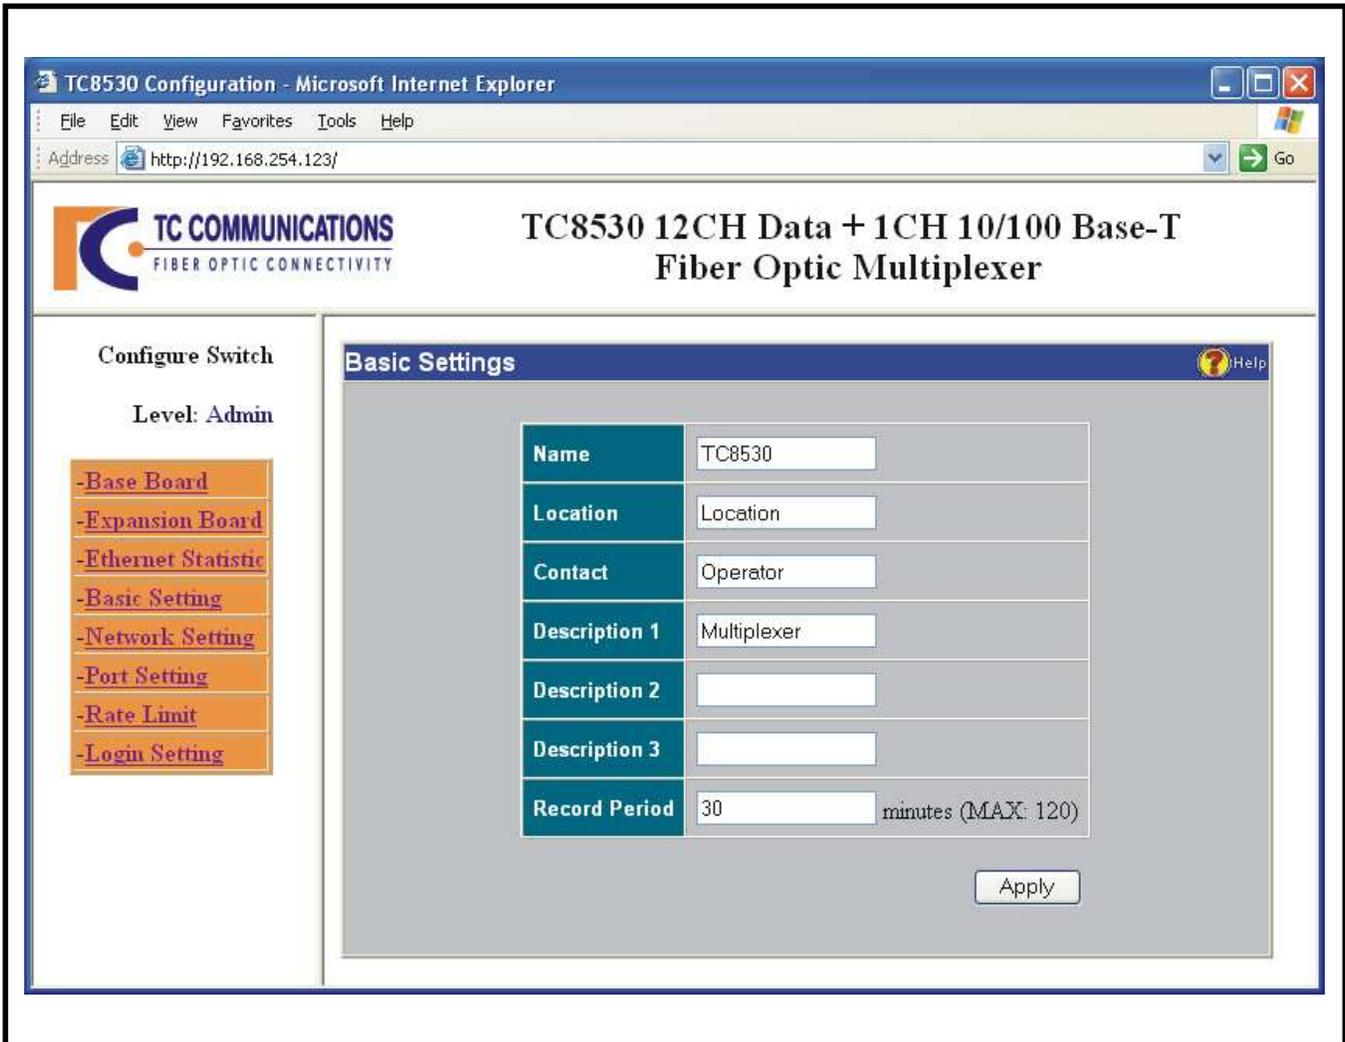

Figure 24. TC8530's Basic Configuration
2. On the center of the window you will see "History counter record every "30" minute(s)." You can set up your own preferred time intervals specified in the Basic Configuration window figure 24, on page 31.
Click the "Basic Setting" link on the left side of the page and you will see the window as in figure 24, below and you can begin the configurations. You may change the values of the fields as you like.